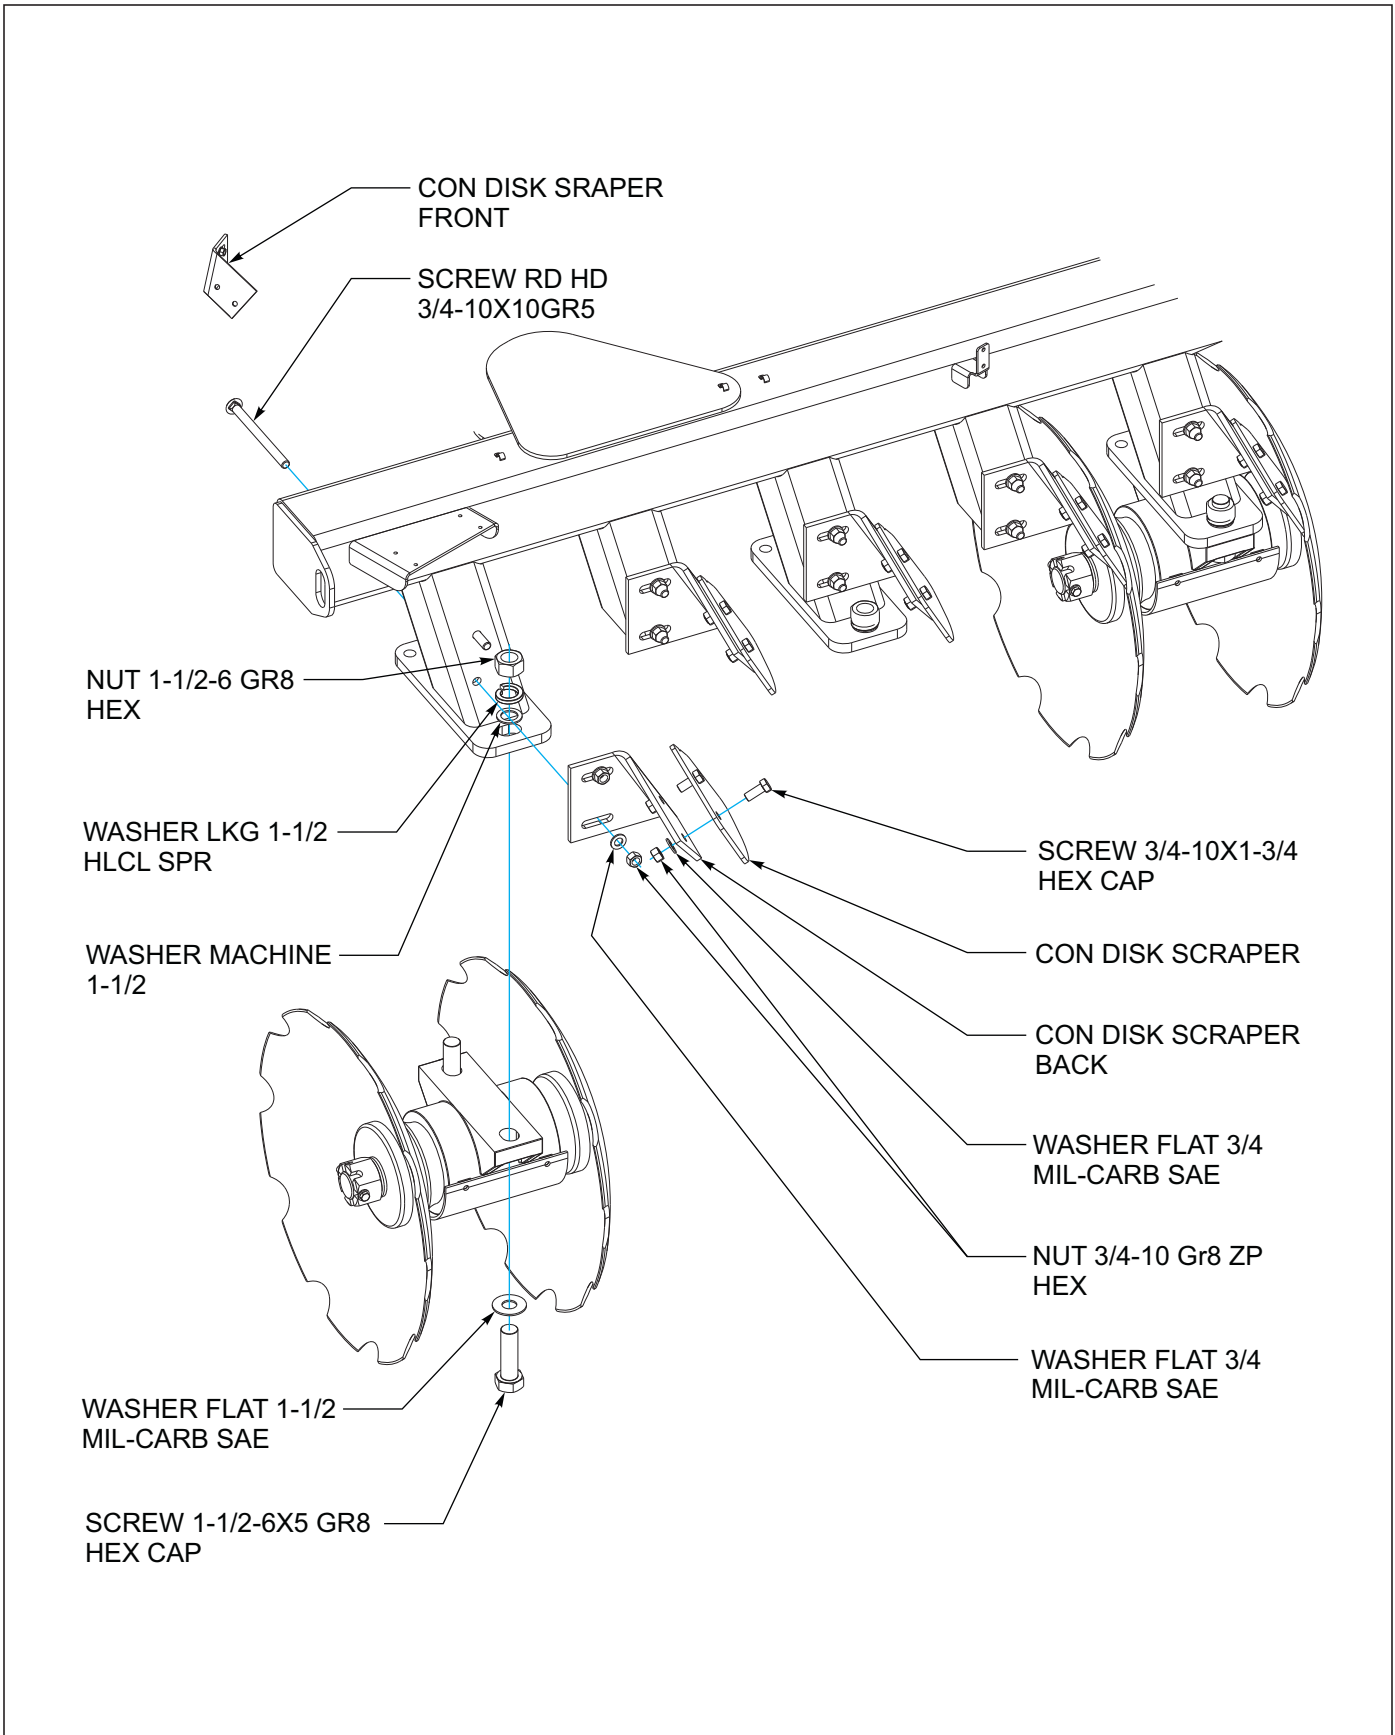

Figure 4-10: Disc Gang Mounting Hardware
3. On new machines and after removing disc gangs from frame, check and tighten all disc gang mounting hardware daily for the first 2 weeks *See Figure 4-10.*